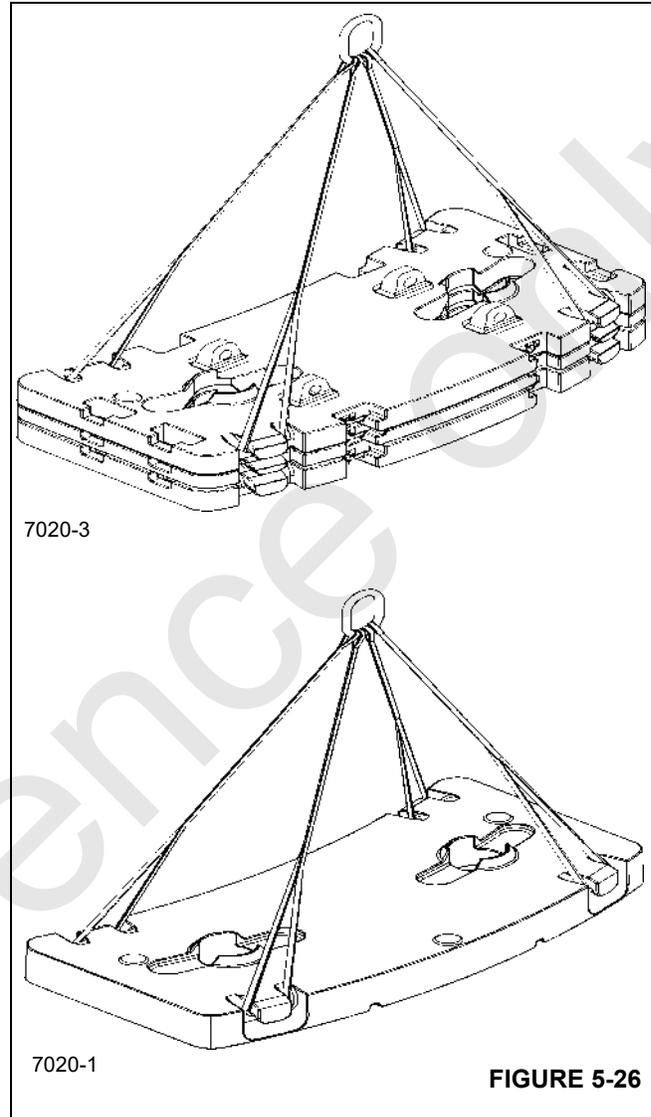
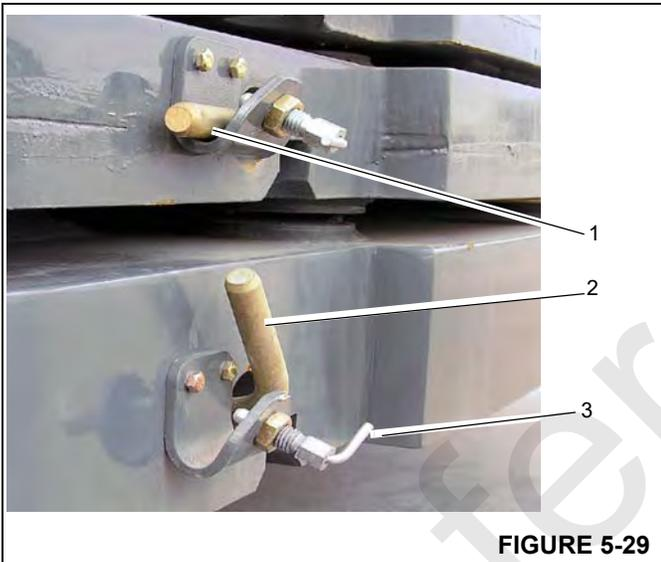

FIGURE 5-26
FIGURE 5-29
The 3,000 lb and two 5,000 lb counterweights can be combined and lifted as shown in (Figure 5-26). Make sure that all locking pins are in the locked position as shown in (Figure 5-29). Place the sling straps on the top counterweight. Do not lift this plate with the 3,000 lb, two 5,000 lb sections or with the 3,000 lb tray. Lift the 10,000 lb plate separately.
When lifting the 3000 lb and 5000 lb counterweights, make sure that ALL locking pins are completely installed in the lock position (Figure 5-29) before lifting the counterweight sections on and off of the crane.
The locking pins (Figure 5-29) are shown in both the Locked (1) and Unlocked (2) position. To place the pin in the Unlocked position, disengage the spring-loaded retainer pin (3), (Figure 5-29). Rotate and remove the locking pin from the holder.
counterweight plates, the 10,000 lb counterweight plate, and the 3,000 lb counterweight tray onto the counterweight platform according to (Figure 5-25). Move the turntable into position and raise the counterweight assembly with the counterweight hoisting unit. Secure the top counterweight plate (2,000 lb, 3,000 lb or 5,000 lb) to the turntable with the two bolt pins (1), (Figure 5-30). Place the bolt pins through the two mounting brackets (2), (Figure 5-30) and rotate the roll pins (3), (Figure 5-30) into the slots on the mounting bracket. Make sure that all the locking pins (4), (Figure 5-30) are in the locked position as shown in (Figure 5-29).